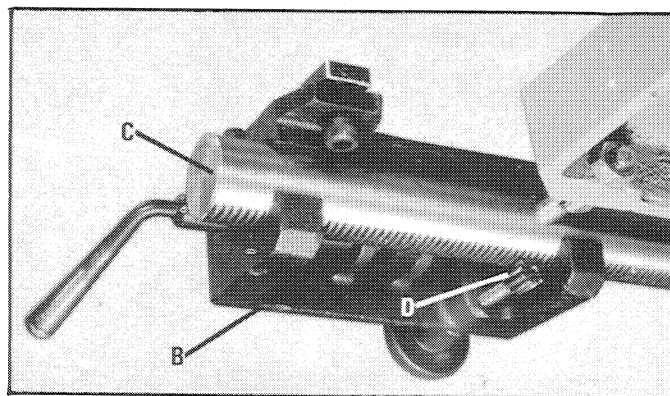

Fig. 16
2. Slide fence body (B) Fig. 16, onto end of guide rail (C) making sure gear (D) is engaged with teeth on bottom of guide rail, as shown.